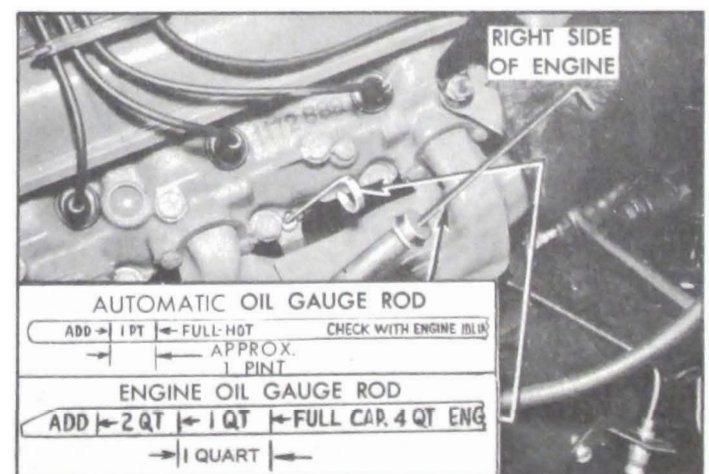

Figure 1-5—Engine and Auto. Trans. Oil Gauge Rods
6. *Automatic Transmission.* Check transmission oil level, with transmission oil warm, transmission in Park, and engine idling. Remove gauge rod located under right side of hood (fig. 1-5), wipe dry with clean cloth then reinstall to full depth. Remove rod and note oil level.